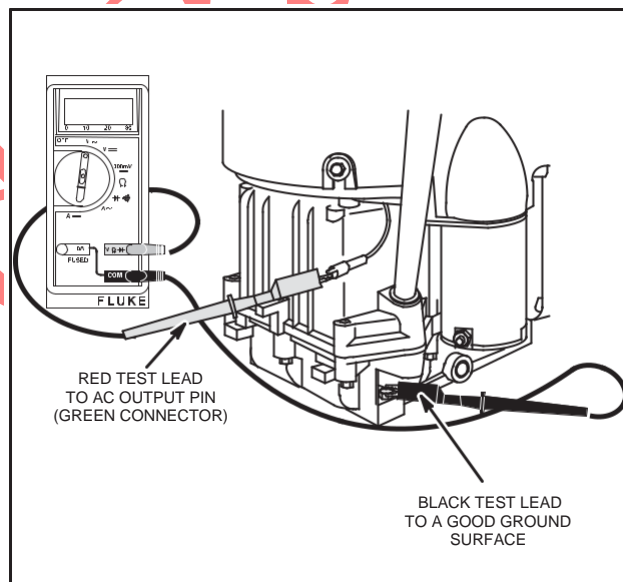

Fig. 16 – Testing Alternator Output
4. Attach RED test lead clip to output terminal, Fig. 16.